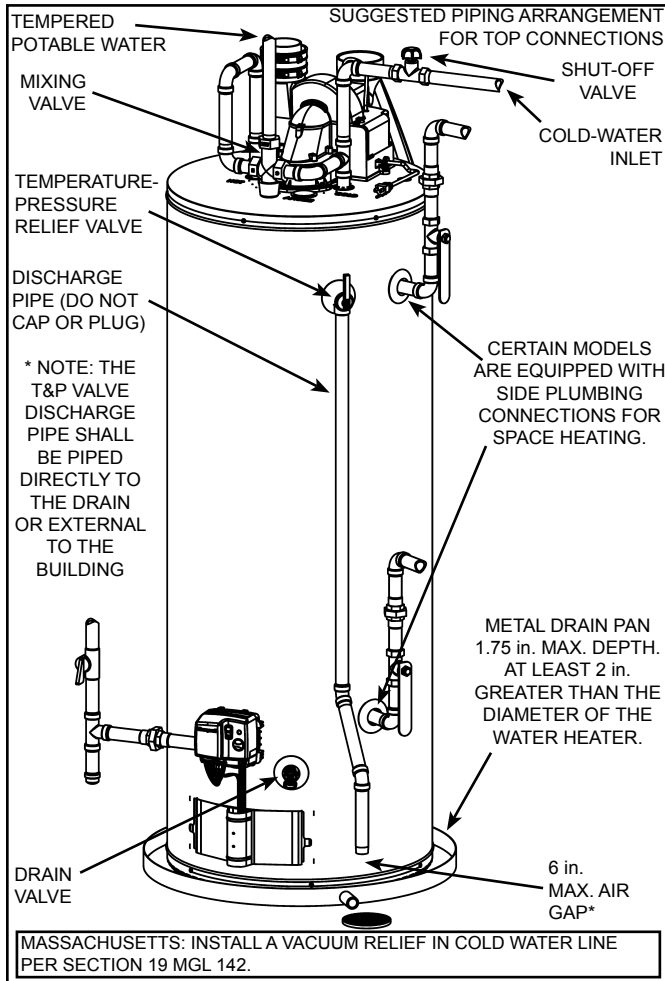
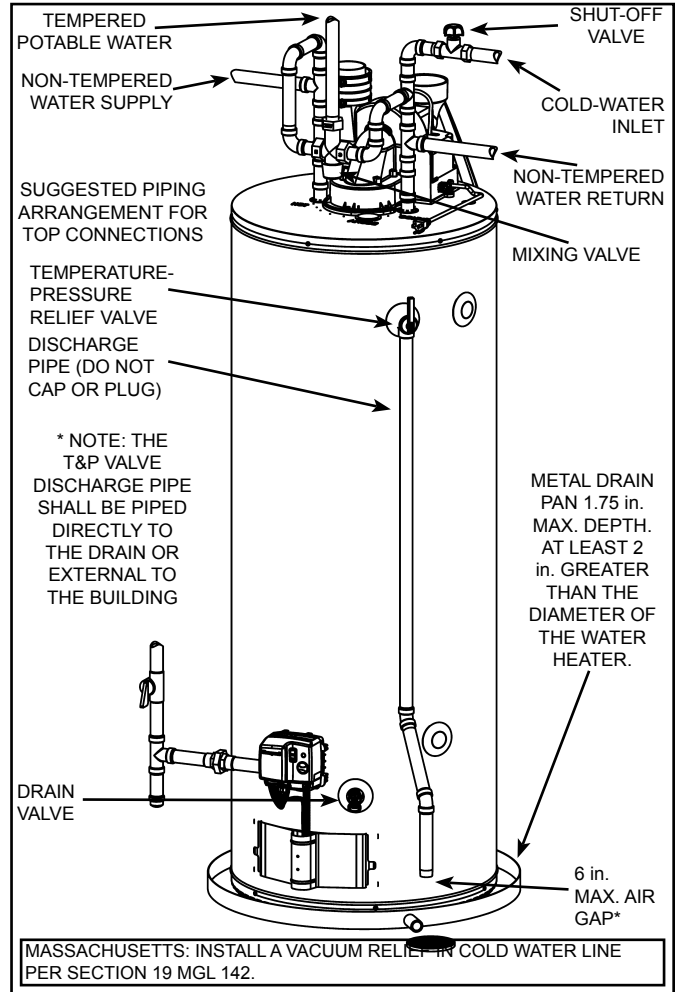

Figure 6
Figure 7
Models equipped with Combo Heating capabilities are shipped with the two side plumbing taps **OPEN** (item 9 and item 12 in Figure 1 and see also Figure 6 & Figure 19). If the heater is to be operated without using the side taps these openings **must be plugged** with the two pipe plugs supplied with the heaters.
In addition to using lowest possible temperature setting that satisfies demand of application, a mixing valve should be installed at water heater (see Figure 6 & Figure 7) or at hot-water taps to further reduce system water temperature. Mixing valves are available at plumbing supply stores. Consult a Qualified Installer or Service Agency. Follow mixing valve manufacturer’s instructions for installation of the valves. Before changing the factory setting on the thermostat, read the “Operating The Temperature Control System” section in this manual.